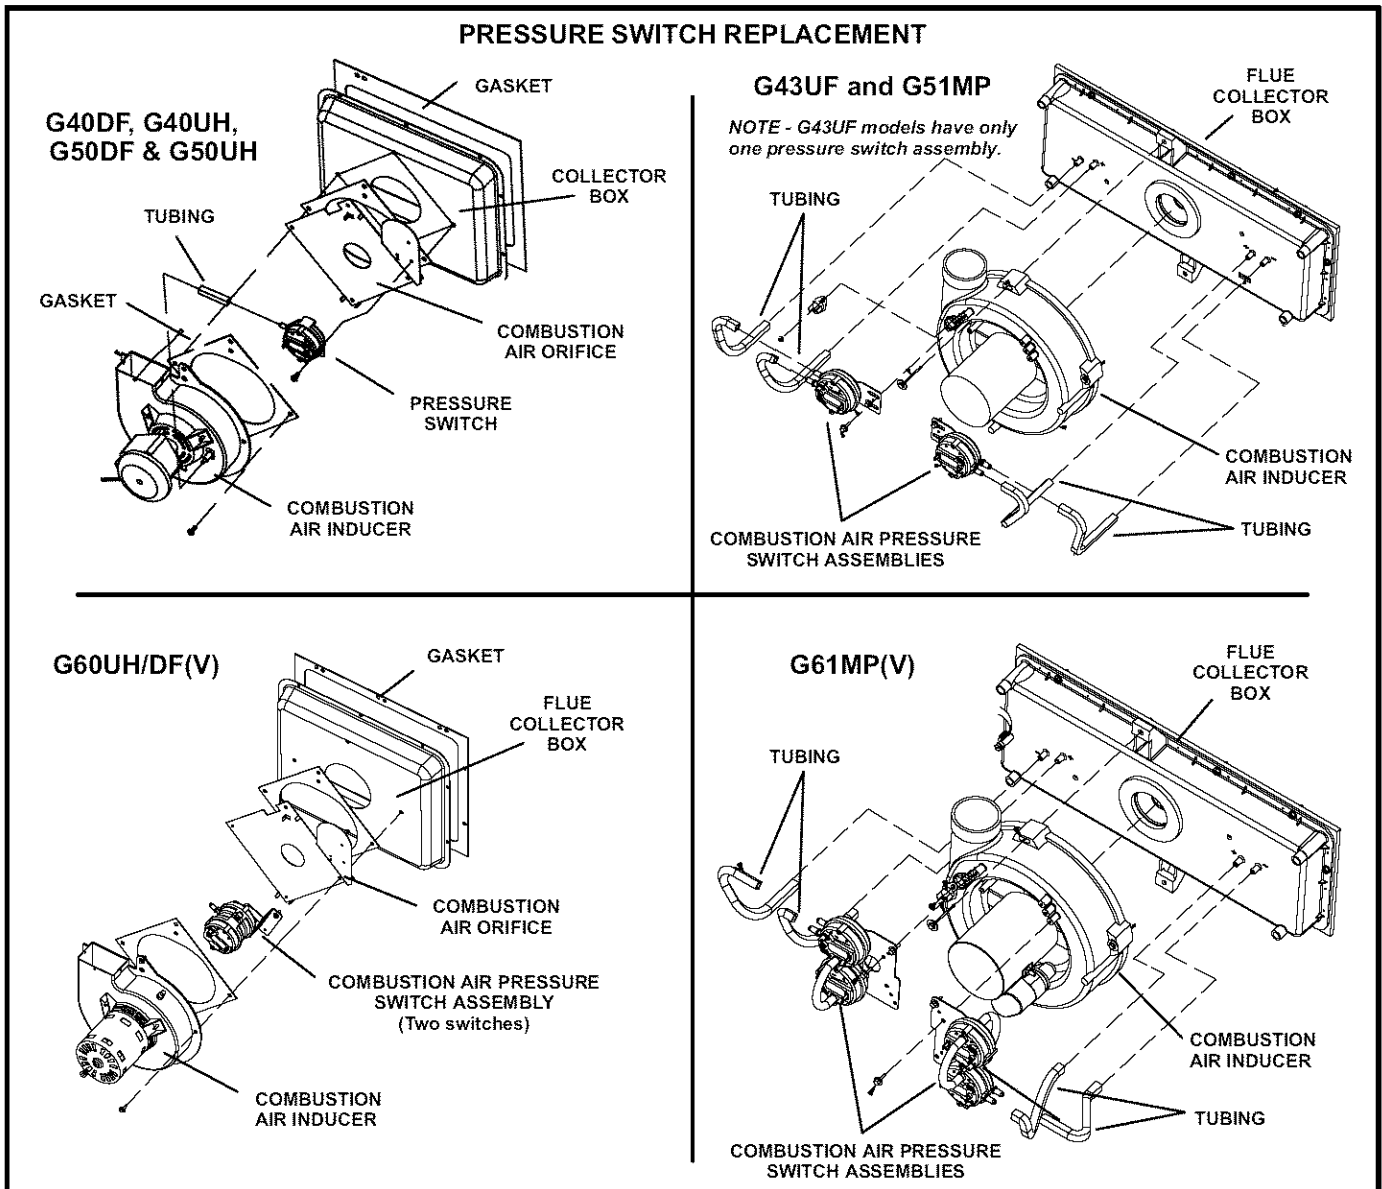

Figure 2
- 6 - Units installed at altitudes higher than 7500 feet above sea level may require a replacement pressure switch assembly. See table 1 for the proper switch assembly. Refer to figure 2 for pressure switch location.
- c - Securely attach flexible tubing to fitting on replacement pressure switch assembly(ies). See figure 2.